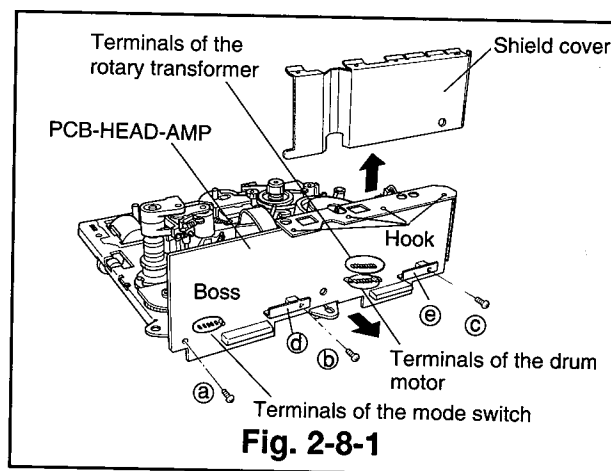
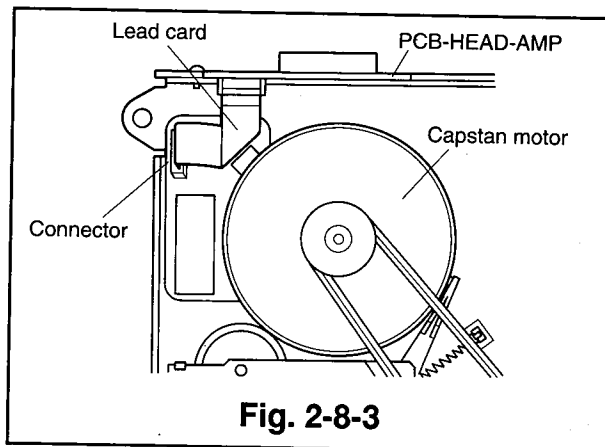

Fig. 2-8-1
Fig. 2-8-3
- 1 Unfasten the hook and raise the head amp shield cover shown in Fig. 2-8-1 to remove it.
- 2 Unsolder the terminals of the mode switch, the drum motor, and the rotary transformer shown in Fig. 2-8-1.
- 5 Reverse the deck and disconnect the lead card, connecting the PCB of the capstan motor and the PCB-HEAD-AMP. (Refer to Fig. 2-8-3.)
- 6 Remove the three screws (a, b and c) and slowly pull the PCB-HEAD-AMP in the direction shown by the arrows. (Refer to Fig. 2-8-1.)
- 1 Insert the terminals of the mode switch, the drum motor, and the rotary transformer, and the boss, adjacent to the mode switch, in the matching holes on the PCB-HEAD-AMP and secure the PCB-HEAD AMP with the three screws (a, b and c) in the order, b → c → a. (Refer to Fig. 2-8-1)
- 2 Solder the pins mentioned in Item ①.
- 3 Reverse the deck and reconnect the lead card connecting the PCB of the capstan motor and the PCB-HEAD AMP (Refer to Fig. 2-8-3.) Take care not to fit lead card upside down.